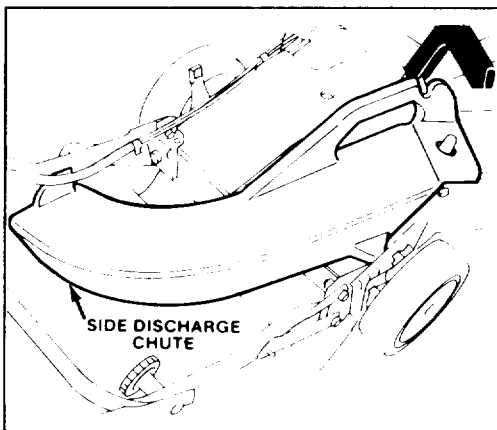

Figure 6
**SIDE DISCHARGE**—Disperse clippings with optional, rear-mounted side discharge chute which installs in seconds. Between the handle design lets you trim on both sides (Fig. 6).